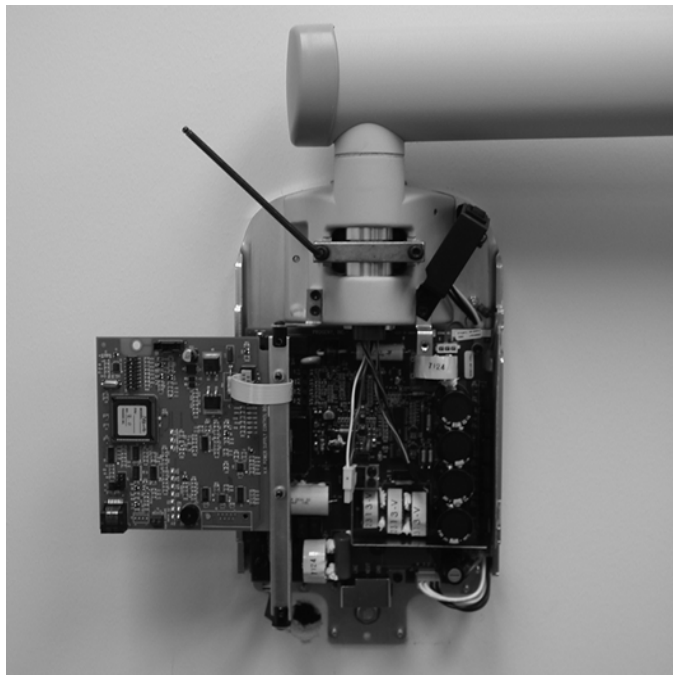

Figure 96
5. Using a 4 mm Allen wrench, as shown in *Figure 96*, tighten the screws equally to apply adequate braking to the pivot post so that Horizontal Arm begins to move after the Articulating Arm.